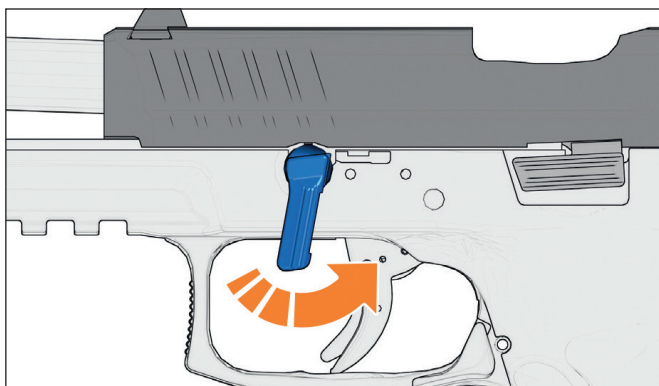

Figure 23 – Pivot the disassembly lever counterclockwise
9. Pivot the disassembly lever counterclockwise so that the lever lies horizontal to the bottom of the slide (see Figure 23).